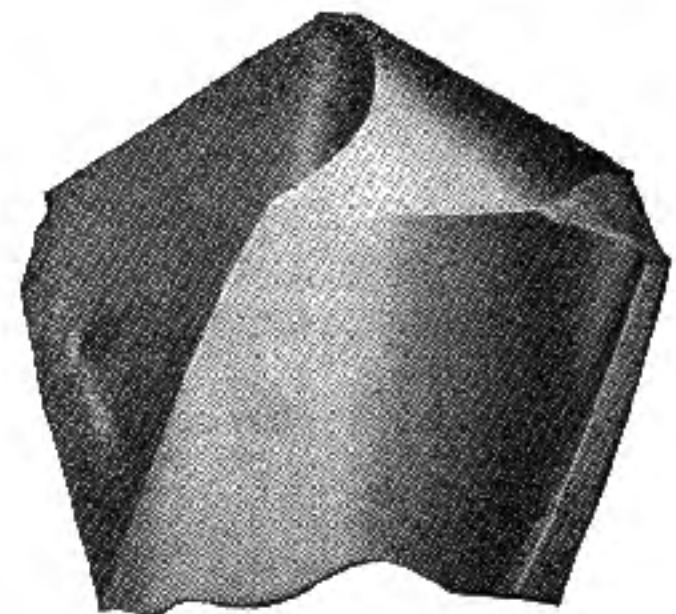

Fig. 35
**Drill Troubles**—Twist drills will stand more in proportion to their size and weight than almost any other tools, and when a good one does give trouble it is due to neglect. When drills chip on the edge, the lip clearance is too great and fails to support the cutting edge. If the outer corner wears, it shows that the speed is too great. Figure 35